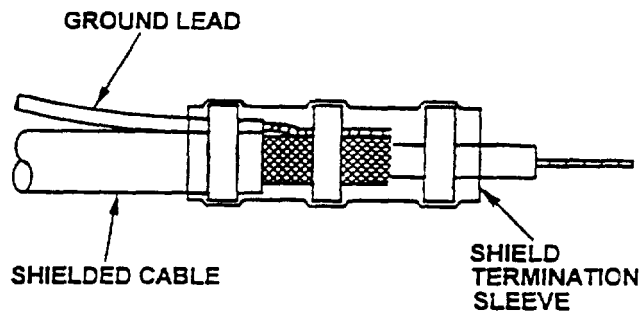

Figure 3 . M83519/1 Termination
16. **M83519/1 or Series SO1.** These solder sleeves are supplied without a ground lead; and if required, ground lead must be installed. (Figure 3).